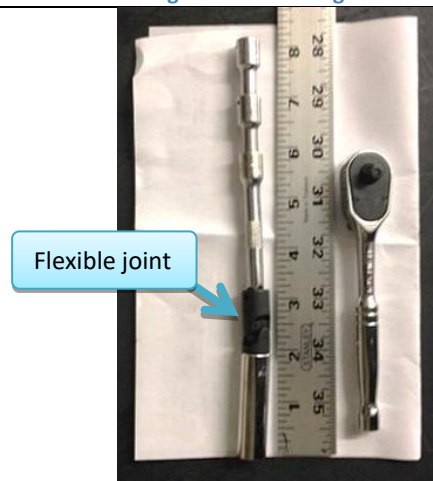

Figure 12: Ratchet setup for nut removal on side of valve cover.
7.6.1. Use 10mm deep well socket -> flexible jointed fitting -> long extension -> ratchet wrench (all 1/4 in.) (Figure 12)